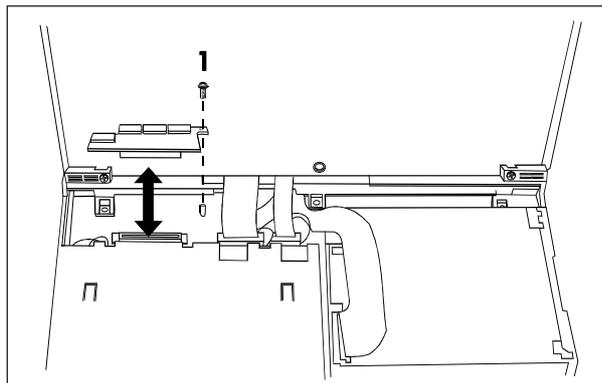

Figure 2-6. Memory Module Disassembly/Reassembly
2. Remove the screw (Figure 2-6 #1) securing the memory module to the system board.
1. Firmly plug the memory module's connector into place and secure with the screw (Figure 2-6 #1).